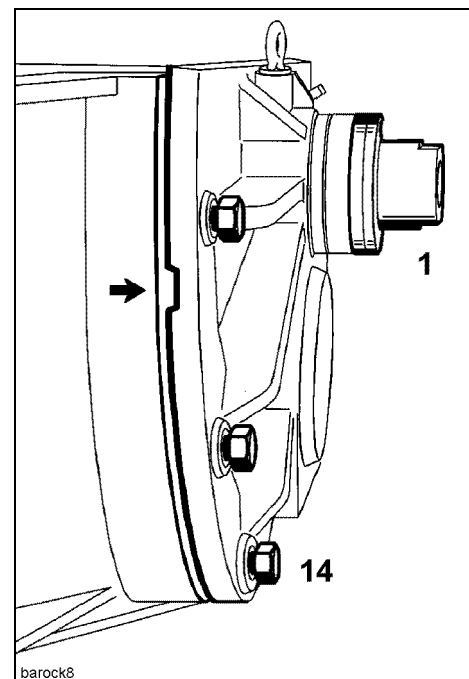

Fig.: 13
- Loosen the adjusting nut 1 (Fig.: 13) by two to three turns.
Press off areas (arrow, Fig.: 13) are thereby located on the top cover.